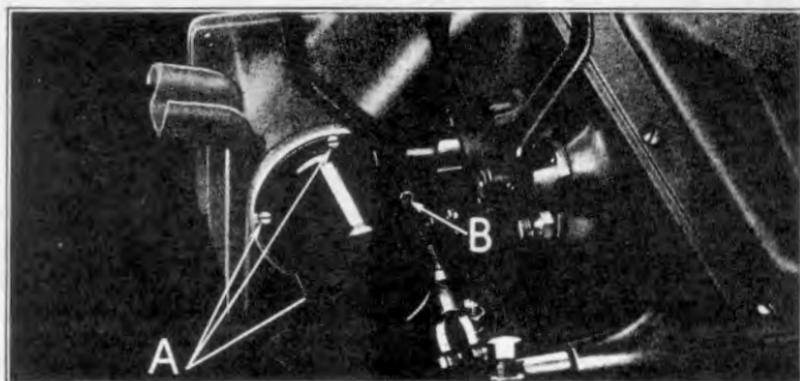

Fig. 443
- 894 Remove bendix cover by running out three of the four bendix cover screws (See "A" Fig. 443) and loosening the fourth screw "B". Cover can then be lifted off.
- 901 After examining bendix cover gasket, position bendix cover over end of bendix, so that one of the four openings in the flange of the cover can be inserted under the head of the bendix cover screw and lockwasher which were not withdrawn when cover was removed. (See "B" Fig. 443). Run in remaining three bendix cover screws and lockwashers, drawing all screws down tightly.